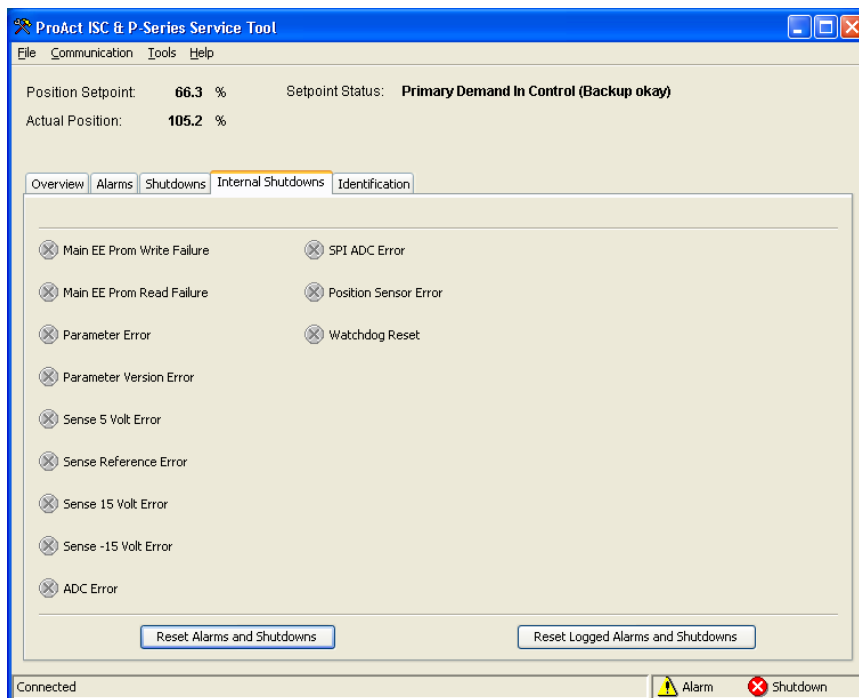

Figure 4-4. Service Tool—Internal Shuttdowns Tab
- Internal Shutdowns, (see Figure 4-4)